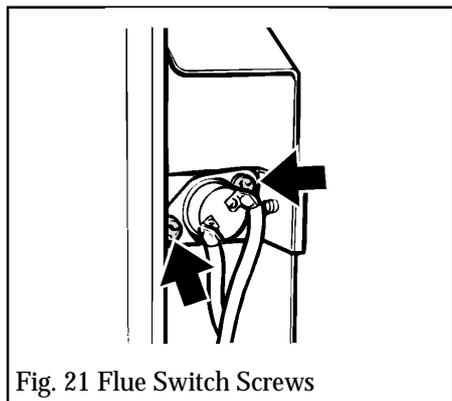

Fig. 21 Flue Switch Screws
**16.12.3** Detach the flue switch from the right side of the downdraught diverter by removing two screws (Fig. 21).
**16.13.11** Detach the flue switch from the right side of the downdraught diverter by removing two screws (Fig. 21). Carefully pull the switch through the hole in the back panel.